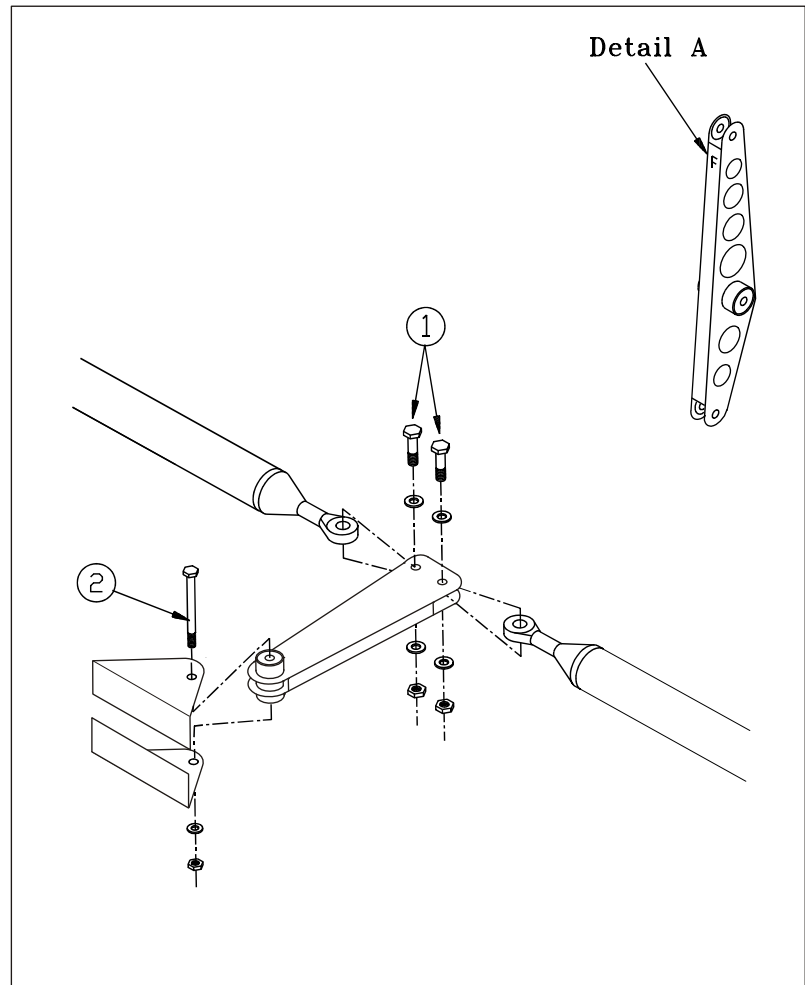

Figure 8
Refer to figure 8. All control rods are attached to the control levers in the same way with LN bolts, washers and self-locking nuts. The control rods inside the wing are interconnected by ground bonding leads fastened to the rod ends by additional nuts. So the rod ends have to be disassembled, when the ground bonding leads shall be disconnected. In this case also refer to chapter 27-00-01.
Refer to Figure 8
- 3 Remove the M5 attachment bolt (2).
- 5 Reverse procedure to install the bellcrank using sufficient washers (min. 2) at the nut side of the bolt to cover the shank (except the rocker type bellcrank: use only one washer on each side). Replace the selflocking nuts. Observe the first note of chapter 27-00-00. To ensure installation of the elevator rocker type bellcrank in correct direction this bellcrank is marked by an "F" which indicates the front side (refer to detail A of figure 8).